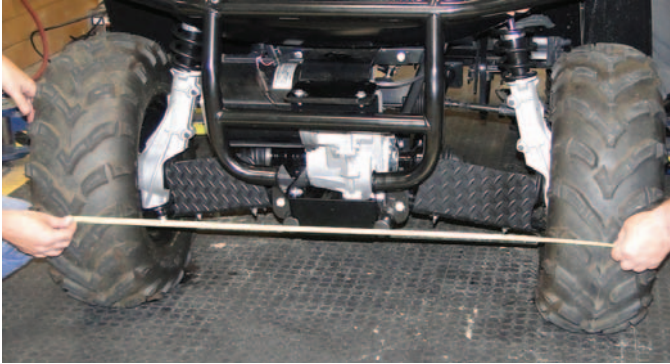

Fig. 14 Wheel Alignment Front of Front Tires
5. Measure the center tread distance at the front of the tires. Measure as close to parallel with the front lower frame of the vehicle as possible (Ref. Fig. 14).